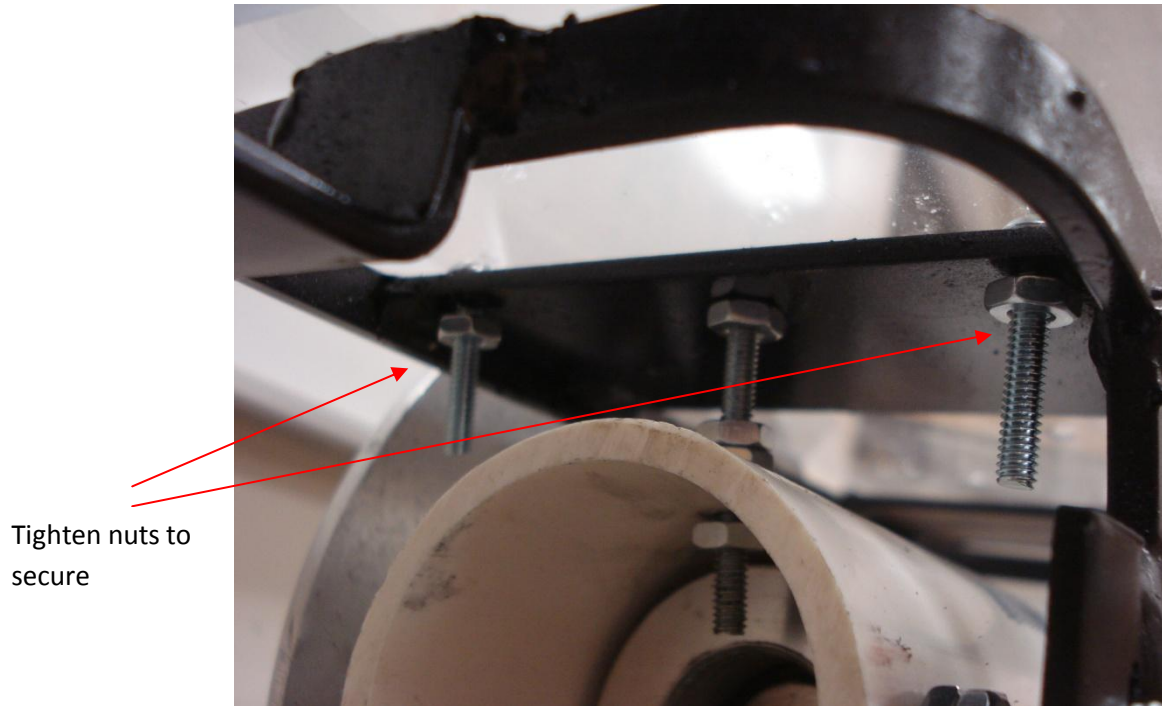

Figure 2: How to attach power supply case
- Make sure the power supply case is mounted securely with all four nuts tightened onto the screws (located underneath the shelf of the power supply rack, shown in figure 2).
- To use the power supply to charge a device (such as a cell phone or a laptop), the power supply case may be disconnected from the rack on the back of the bicycle by removing the nuts from the small screws which attach the power supply case to the rack (shown in figure 2) and carefully lifting the power supply case off of the rack.